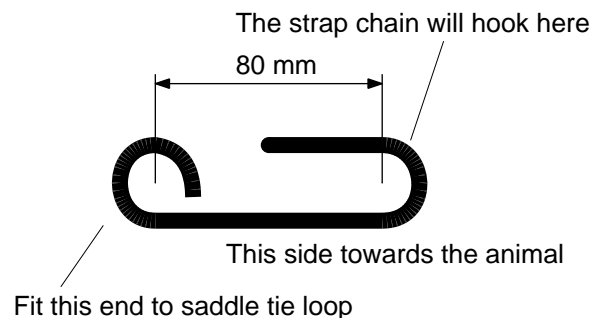

Figure 11: chain hooks for straps.
- 11) Make the strap chain hooks from more R 6 as shown in Figure 11 and fit the fixed ends to the saddle tie loops.